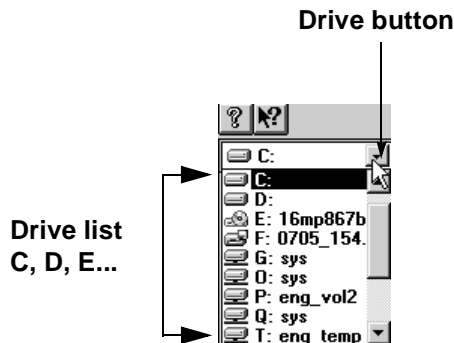

Figure A.6. Drive List
2. Click on the **Drive** button (Figure A.6) to display the Drive list.